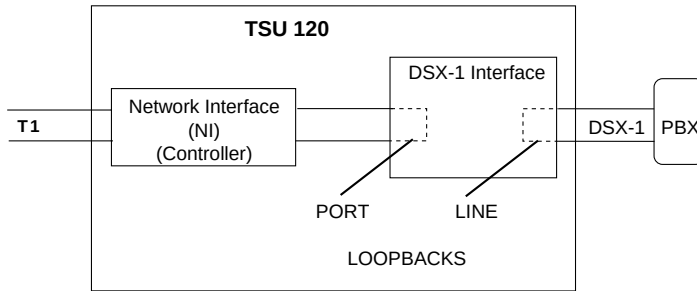

Figure 1-12
The port loopback is internal and loops all data mapped to the DSX-1 back toward the network interface on the controller. The loopback, when used in conjunction with an external bit error rate tester (BERT) to drive the network interface, exercises the entire data path from the network interface (NI) controller, through the DSX-1 interface, and back out the network interface controller. See Figure 1-12.